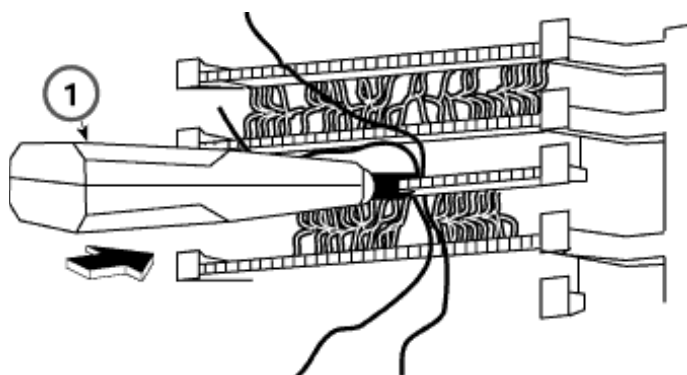

Figure 4-4. Using the D-Impact Tool to Seat the Conductors
- c. Use the D-impact tool (item 1 in Figure 4-4) to seat the conductors.